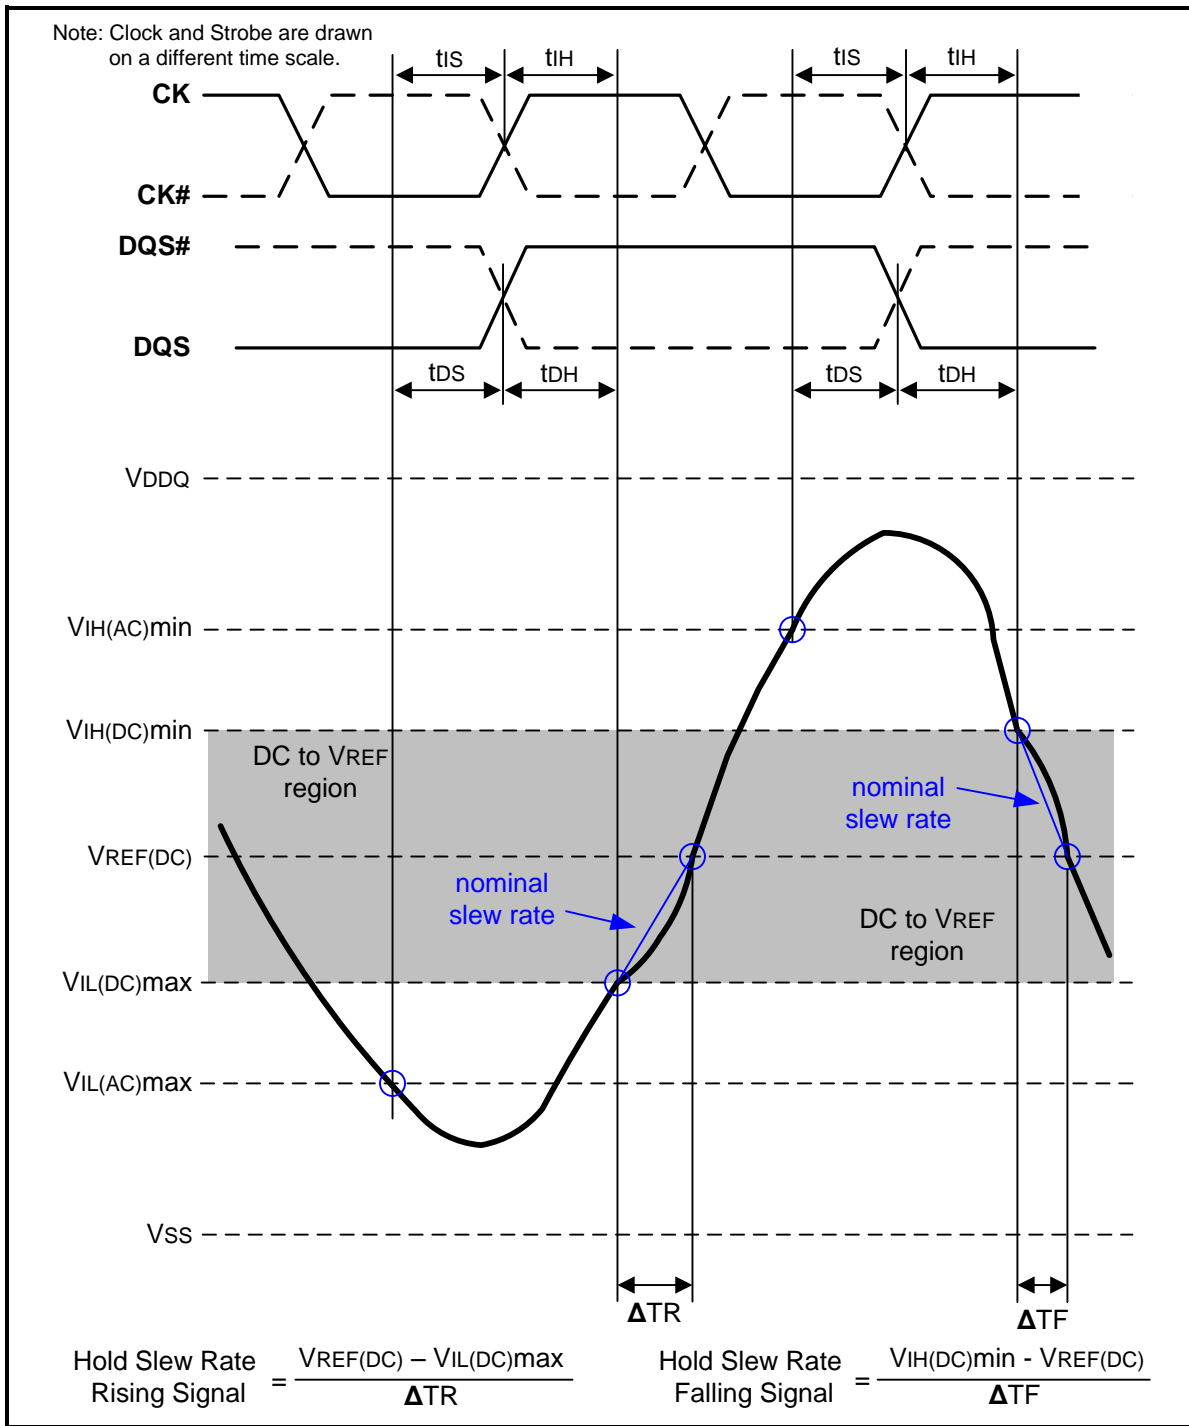
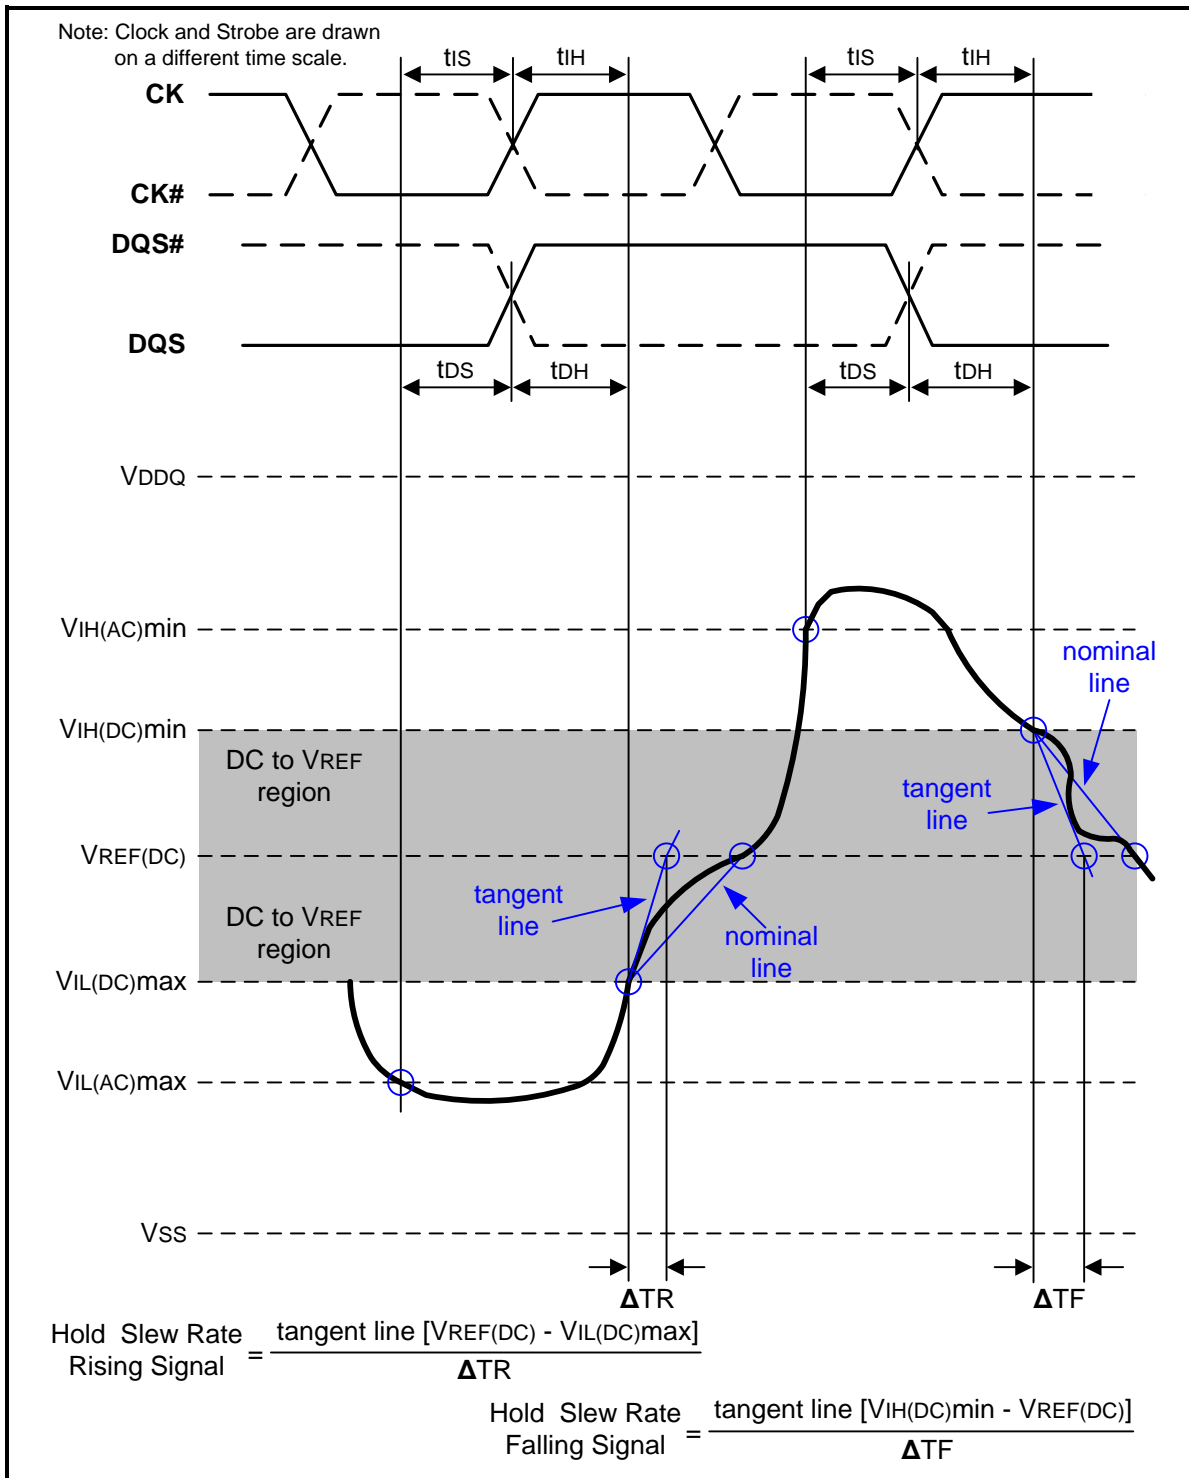

Figure 108 – Illustration of nominal slew rate for hold time tDH (for DQ with respect to strobe) and tIH (for ADD/CMD with respect to clock)
Figure 110 – Illustration of tangent line for hold time t_{DH} (for DQ with respect to strobe) and t_{IH} (for ADD/CMD with respect to clock)
Hold (t_{IH}) nominal slew rate for a rising signal is defined as the slew rate between the last crossing of $V_{IL}(\text{DC})_{\text{max}}$ and the first crossing of $V_{REF}(\text{DC})$. Hold (t_{IH}) nominal slew rate for a falling signal is defined as the slew rate between the last crossing of $V_{IH}(\text{DC})_{\text{min}}$ and the first crossing of $V_{REF}(\text{DC})$. If the actual signal is always later than the nominal slew rate line between shaded 'DC to VREF(DC) region', use nominal slew rate for derating value (see Figure 108). If the actual signal is earlier than the nominal slew rate line anywhere between shaded 'DC to VREF(DC) region', the slew rate of a tangent line to the actual signal from the DC level to $V_{REF}(\text{DC})$ level is used for derating value (see Figure 110).
Hold (tDH) nominal slew rate for a rising signal is defined as the slew rate between the last crossing of VIL(DC)max and the first crossing of VREF(DC). Hold (tDH) nominal slew rate for a falling signal is defined as the slew rate between the last crossing of VIH(DC)min and the first crossing of VREF(DC) (see Figure 108). If the actual signal is always later than the nominal slew rate line between shaded 'DC level to VREF(DC) region', use nominal slew rate for derating value. If the actual signal is earlier than the nominal slew rate line anywhere between shaded 'DC to VREF(DC) region', the slew rate of a tangent line to the actual signal from the DC level to VREF(DC) level is used for derating value (see Figure 110).